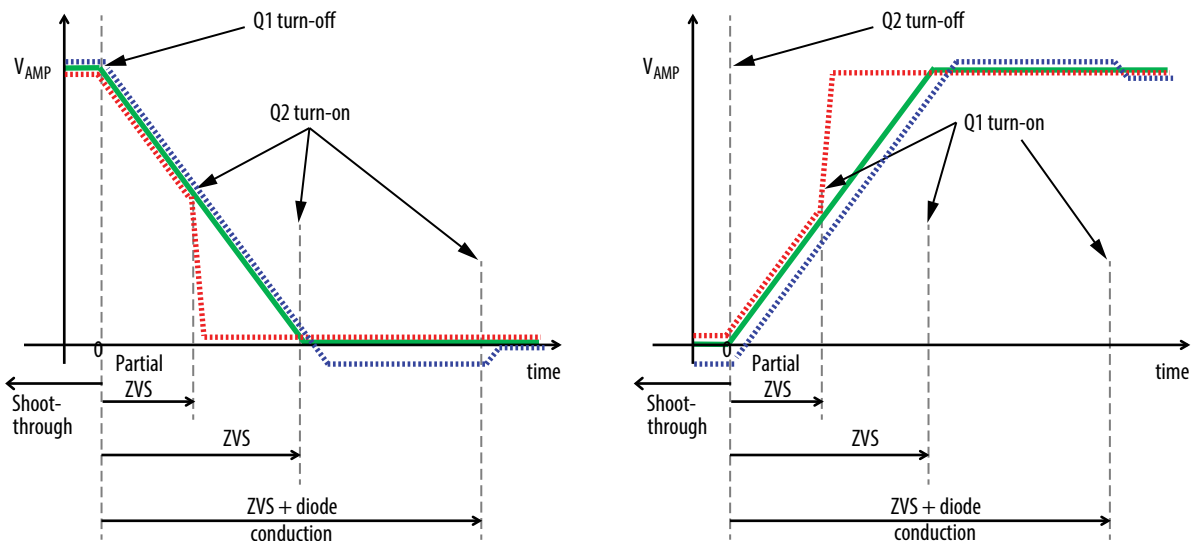

Figure 12: ZVS timing diagrams.
Setting the correct time to establish ZVS transitions is critical to achieving high efficiency with the EPC9512 amplifier. This can be done by selecting the values for R71, R72, R77, and R78 or P71, P72, P77, and P78 respectively. This procedure is best performed using a potentiometer installed at the appropriate locations that is used to determine the fixed resistor values. The procedure is the same for both single-ended and differential mode of operation. The timing MUST initially be set WITHOUT the source coil connected to the amplifier. The timing diagrams are given in figure 12 and should be referenced when following this procedure. Only perform these steps if changes have been made to the board as it is shipped preset. The steps are:
6. While observing the oscilloscope adjust the applicable potentiometers to achieve the green waveform of figure 12.